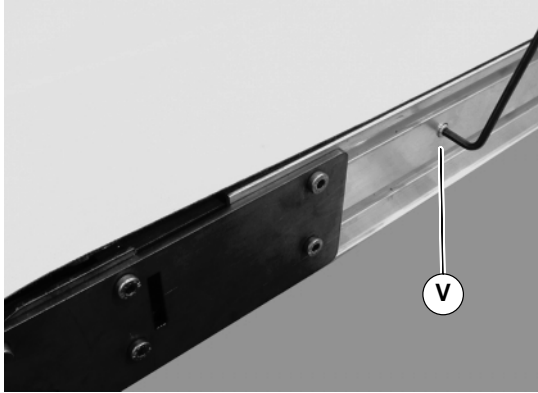

Figure 19
2. On tension end of the conveyor, identified by the pinion locking screw (S of Figure 18), push in head plate assembly (U): Loosen the pinion locking screw (S), adjust the pinion torque screw (V of Figure 19). On both sides of conveyor, loosen the two tail clamp bolts (T of Figure 18), and push head plate assembly (U) inward.